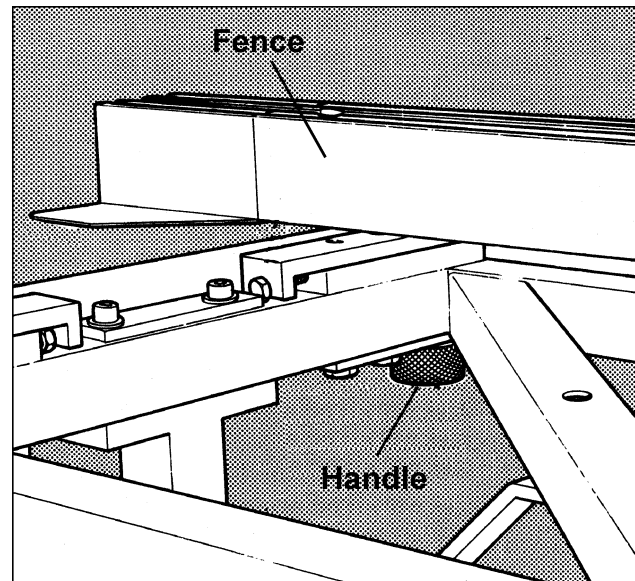

FIGURE 15
1. The crosscut table has four holes allowing the fence to be placed in two positions: at the left or right of the crosscut table. Place the fence on to the crosscut table as shown in Figure 15, and lock it in position with the two serrated handles.